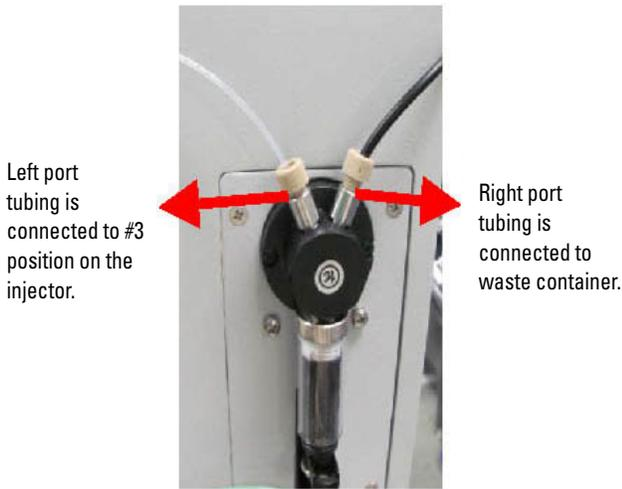

Figure 4: Tubing location on the AutoInjector Module
- Thread the nut of the clear 15" Teflon tubing into the top left port of the AutoInjector. Thread the nut side of the black 72" tubing into the top right port of the AutoInjector (Figure 4).